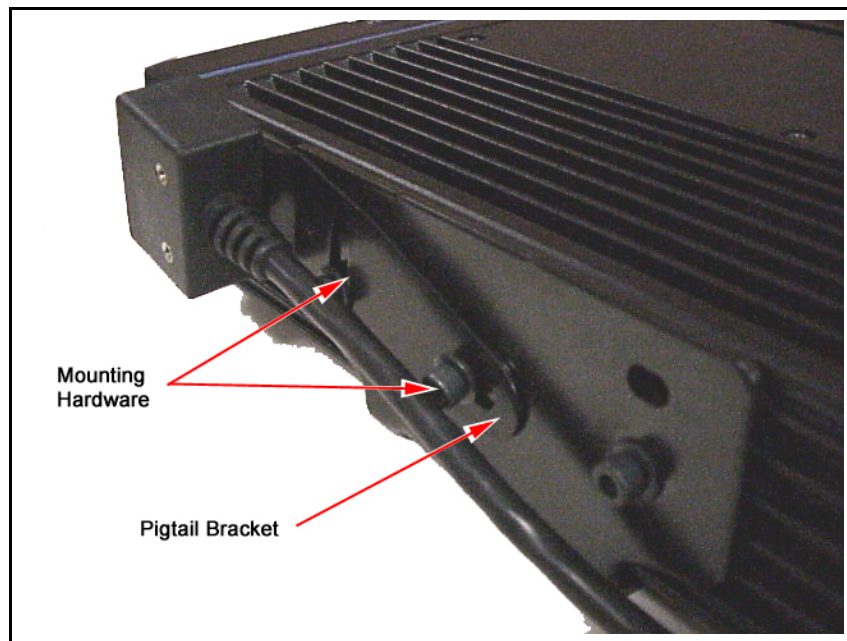

Figure 10-12: Pigtail Bracket Mounted on Radio
5. The other slot in the Pigtail Bracket will enable flexible positioning of the pigtail. Position the bracket, and insert the remaining M5 x 10mm hex head screw and lockwasher. Tighten both of the hex head screws to 7 N-m (61 in-lb) to maintain the desired Pigtail position. See Figure 10-12.